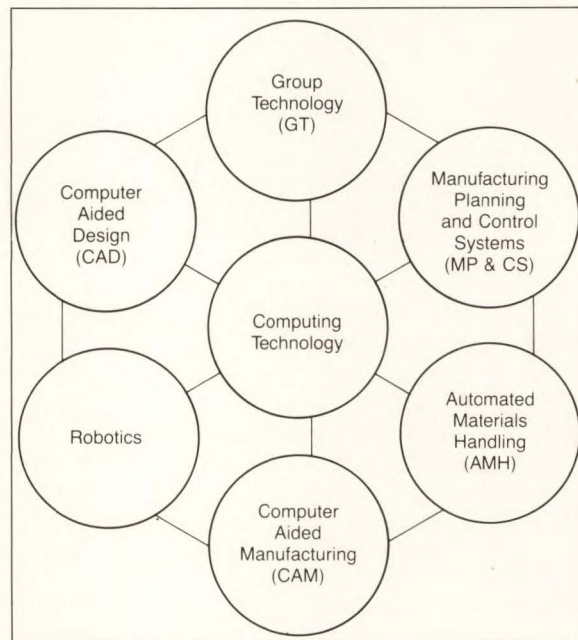

Figure 1: Definition of Computer Integrated Manufacturing by functional areas.
Such figures are meaningless, however, until tied to a definition of CIM. We define CIM to be the functional areas of Computer Aided Design (CAD), Group Technology (GT), Manufacturing Planning and Control Systems (MP&CS), Automated Material Handling (AMH), Computer Aided Manufacturing (CAM), and Robotics—all integrated by Computing Technology (C.T.), i.e., hardware, software, database, and telecommunications (**Figure 1**).